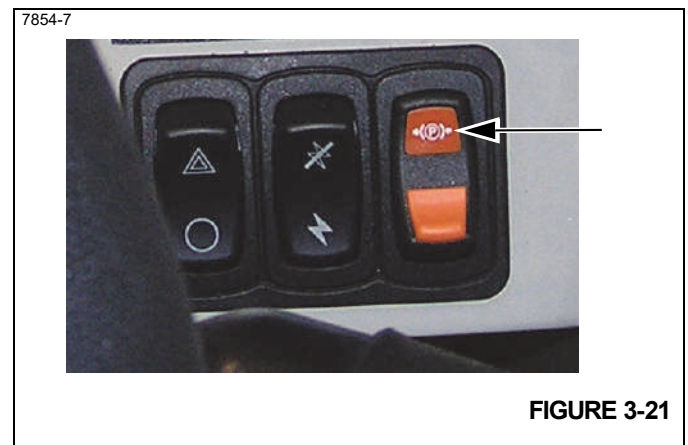

FIGURE 3-21
3. Check that the parking brake (Figure 3-21) is applied. Press the top of the switch.